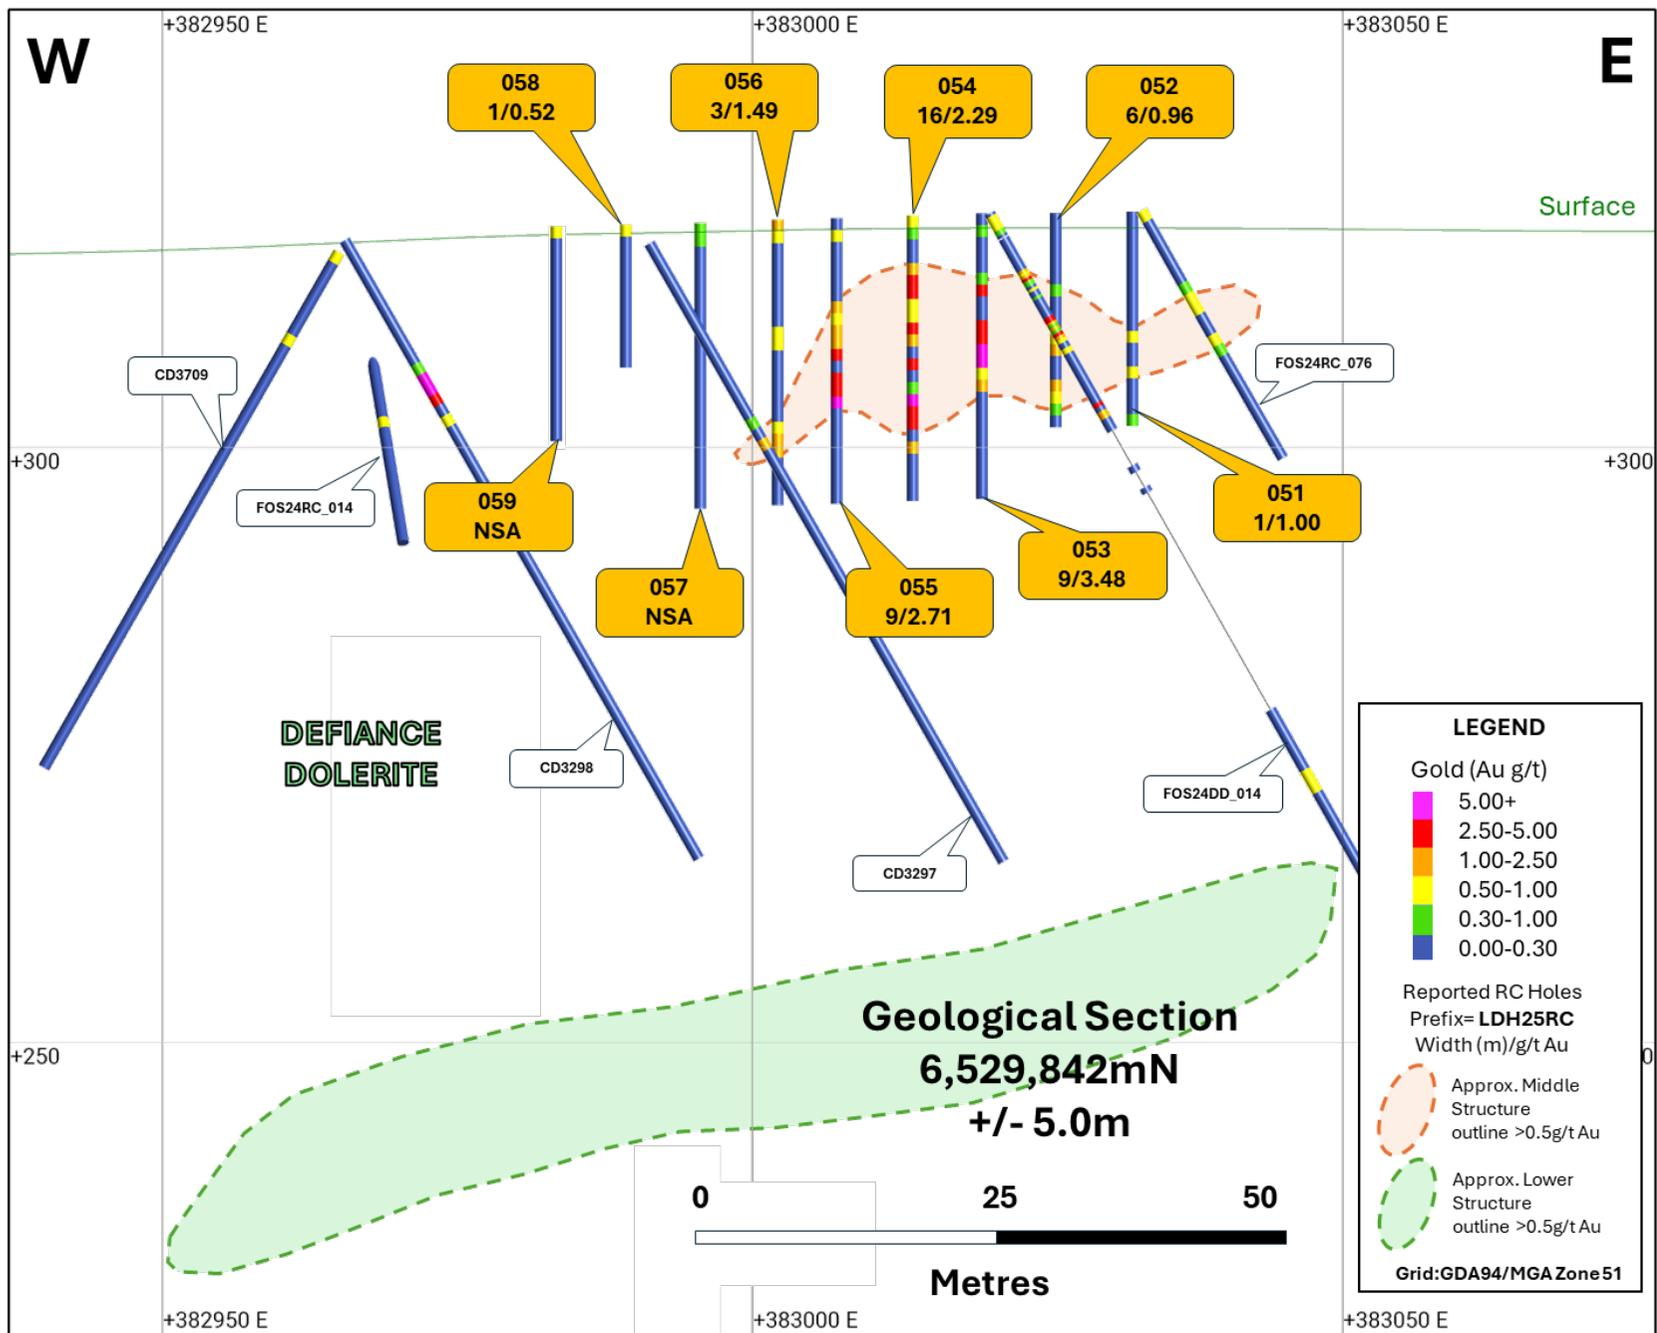

Figure 5: Geological cross section 6,529,842mN
- Figure 5: Geological cross section 6,529,842mN through the Middle and Lower Structures